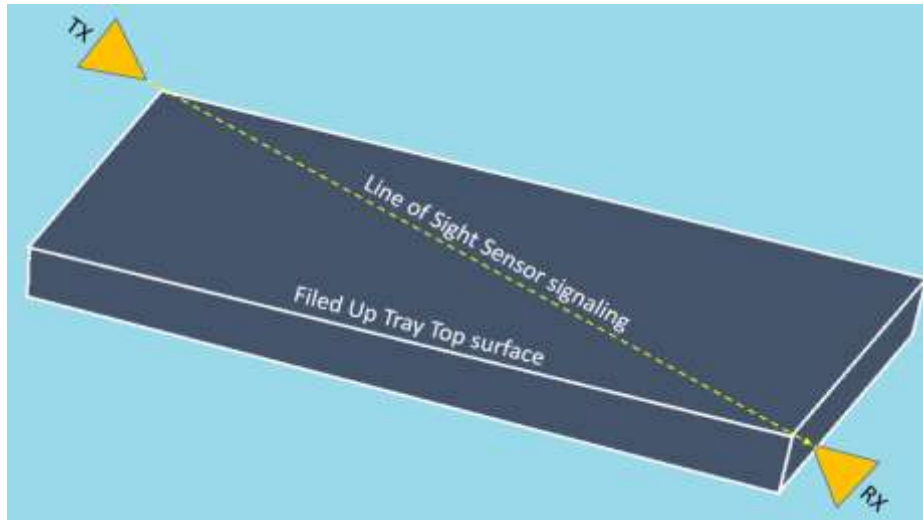

Fig. 6.0 Sensor TX/RX point to point detection set-up.
- Since dislodged units contribute height variation of tray after filed up as figure 4.0 illustrated, this can be detect using a proximity sensor (Laser point to point detection) as per figure 6.0 below illustrated.
- Figure 6.0 above illustrate the sensor set-up to detect tray filed up height variation. When units are dislodged it contribute additional height on the next tray resulting to cut the signal of sensor from Transmitter (TX) towards the Receiver (RX). At this point the mistake proofing design is to stop the Tray transferring robot arm to execute the next command. The machine will stop and the operator will remove the affected tray to proceed the machine process.